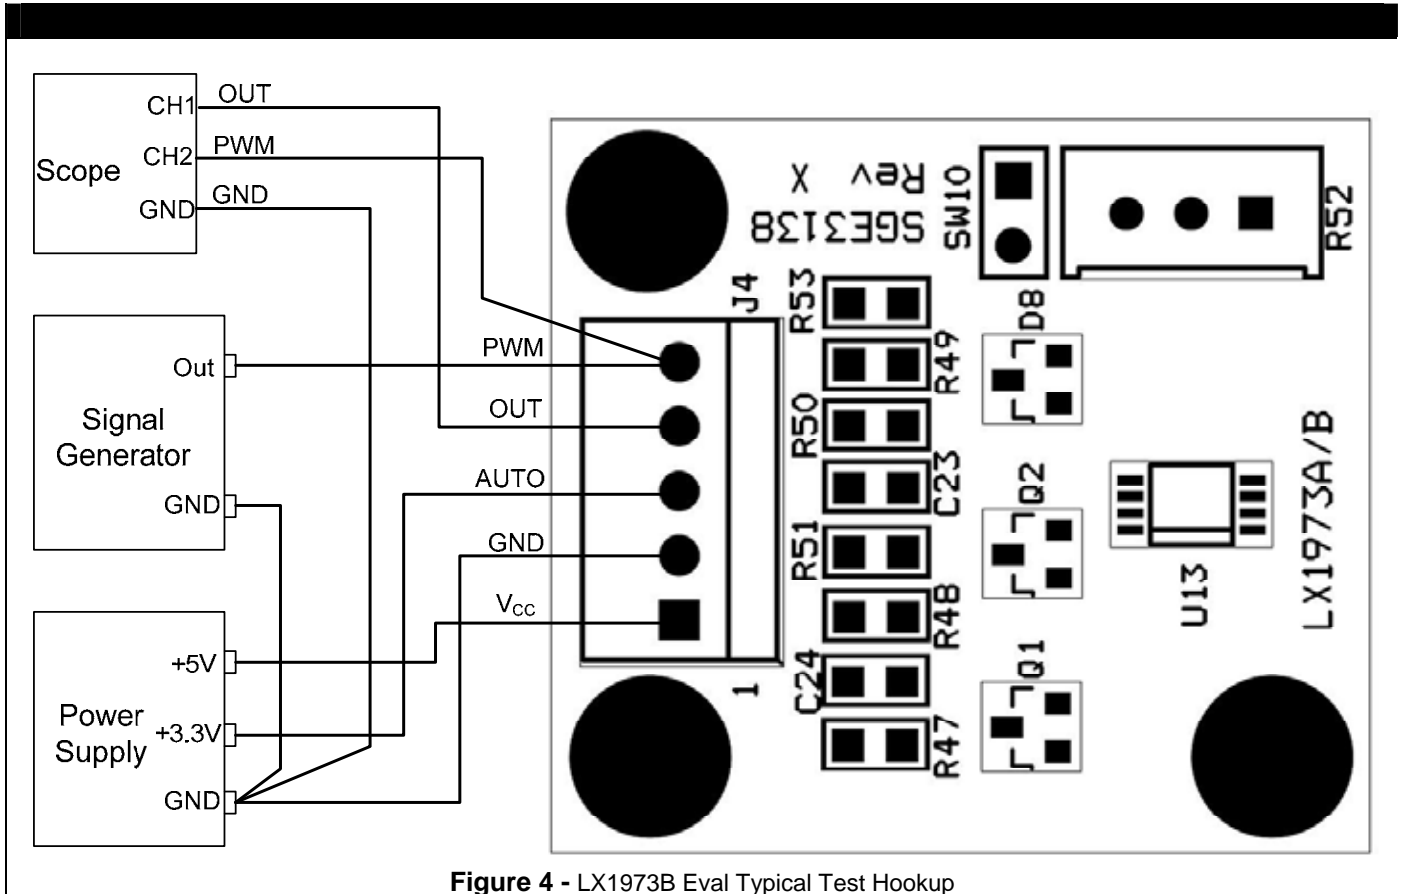

Figure 4 - LX1973B Eval Typical Test Hookup
Connections: The LX1973B Evaluation Board has a 5-pin connector connecting to outside power and signals. The connection pin names and functions are listed below. Figure 4 is a suggested test connection diagram.
- 1) Make connections as shown in Figure 4. Apply 5V power source to the board. Measure Pin 1 and Pin 2 on connector J4 by using multimeter (Red lead to pin 1, black lead to pin 2) to verify +5V power is supplied to the board.